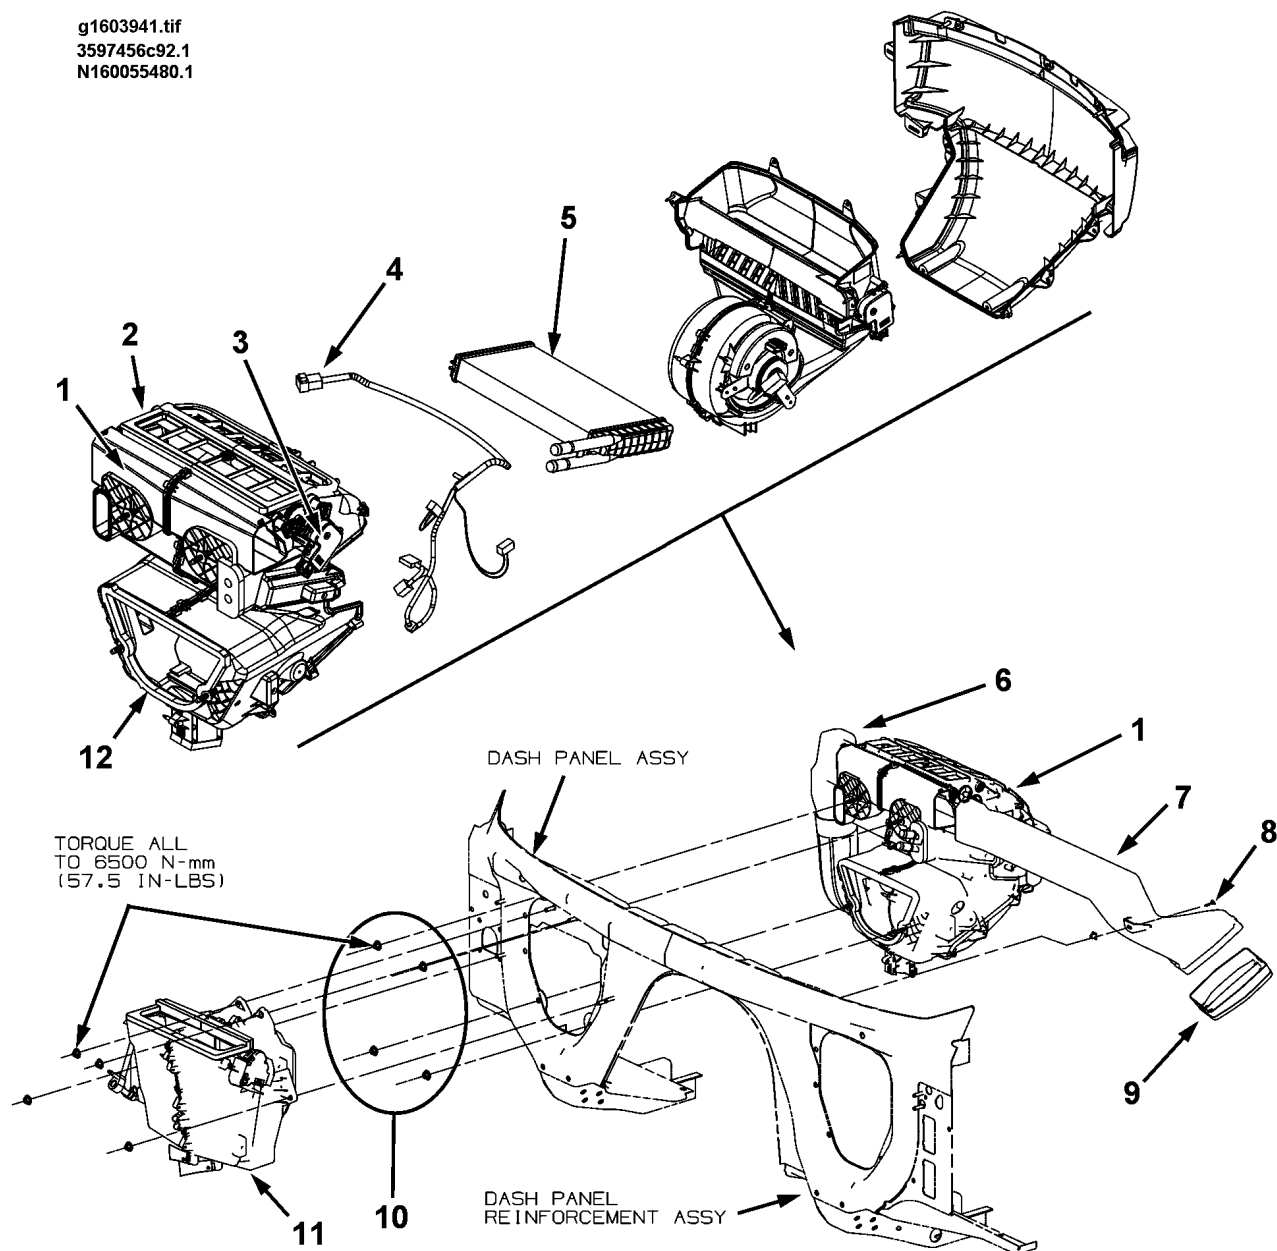
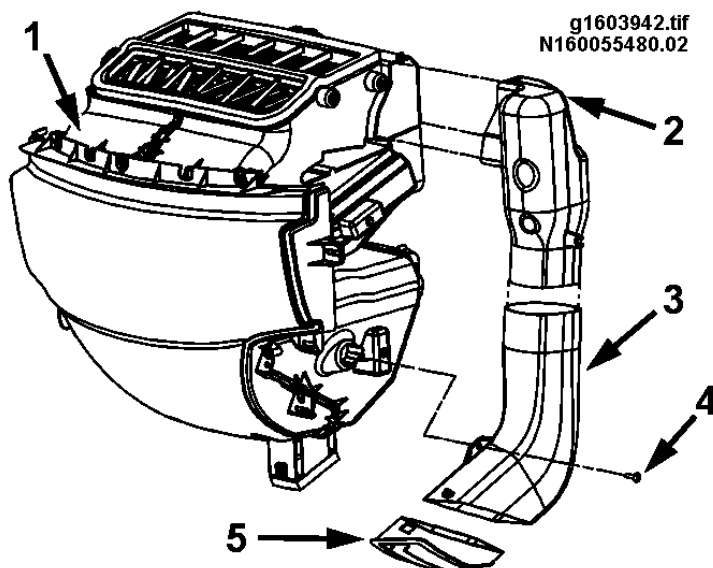

Figure 41 Heater Housing Mounting Diagram
Figure 42 Passenger Side Air Duct
5. To gain access to mounting nuts (10, Figure 41) for the heater housing (1), the evaporator housing (11) must be removed from the cowl. Refer to AIR CONDITIONER (EVAPORATOR) HOUSING, REMOVE AND INSTALL (See AIR CONDITIONER (EVAPORATOR) HOUSING, page 90).
6. Remove heater core (5) from heater housing, refer to HEATER CORE, REMOVE AND INSTALL (See HEATER CORE – FRONT HVAC SYSTEM, page 104).
7. Disconnect HVAC wiring harness (4) from instrument panel wiring harness.
9. Disconnect passenger side floor duct (Items 2, 3, and 5, Figure 42) from heater housing.
- a. Bottom section of duct is mounted to side of housing with one screw (4). After removing screw, bottom section may be removed to provide better access to top section.
10. Remove mounting screw (8, Figure 41) from driver side floor duct (7) and move duct left to disconnect it from housing.
11. On engine side of dash panel, remove four nuts (10) from heater housing mounting studs.
12. Pull heater housing to rear (to allow its mounting studs to clear dash panel). Heater housing (1) should now be clear to slide out from under IP.
13. If mode door actuator (3) is being transferred to a replacement heater housing, remove two screws securing actuator to housing (1), and pull actuator straight off of mode door shaft.
1. Carefully slip mode door actuator (3, Figure 41) from removed housing, onto end of mode door shaft so that mounting holes are properly aligned, if possible. If actuator drive collar must be moved to allow alignment:
4. With IP raised, carefully position heater housing (1, Figure 41) under passenger side instrument panel, so that its mounting studs protrude through matching holes in dash panel.
5. On engine side of dash panel, secure heater housing by installing four nuts (10) on mounting studs. Tighten to 5,400 to 7,600 N.mm (47.5 to 67.5 lbf-in).
6. Connect top section of passenger side floor duct (2, Figure 42) to outlet of heater housing (1). This is a slip-lock type snap joint.
7. Slip bottom section of passenger side floor duct (3) onto top section and secure to side of heater housing using one screw (4). Attach diffuser (5) if it was removed.
8. Connect driver's side floor duct (7, Figure 41) to heater housing by slipping end of duct over heater housing outlet. Secure floor duct to dash panel under instrument panel using its mounting screw (8). Attach diffuser (9) if it was removed.
10. Connect HVAC wiring harness (4) to instrument panel wiring harness.
11. Install heater core (5) and all related heater components, refer to HEATER CORE, REMOVE AND INSTALL (See HEATER CORE – FRONT HVAC SYSTEM, page 104).
12. Install evaporator housing (11) onto cowl. Refer to AIR CONDITIONER (EVAPORATOR) HOUSING, REMOVE AND INSTALL (See AIR CONDITIONER (EVAPORATOR) HOUSING, page 90).